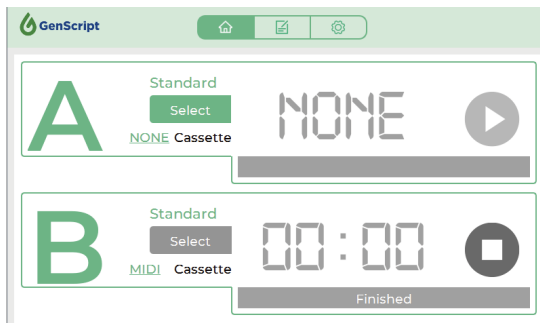

Figure 20. Transfer completed
14. The device will beep when the countdown reaches 00:00 as shown in Figure 20. Press  the stop button to return to the initial interface.